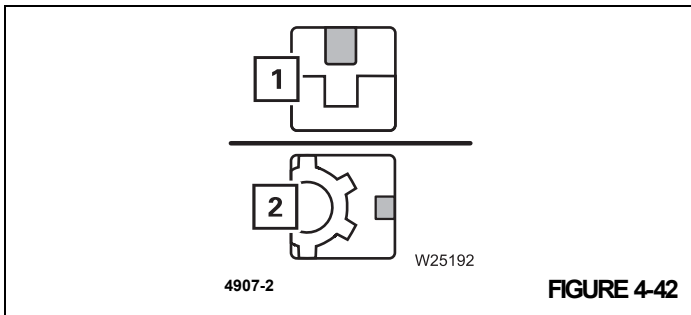

FIGURE 4-42
10. Switch off the swing gear if working at 0° or 180° positions – symbol (1), (Figure 4-42) red, refer to *Switching OFF the Swing Gear*, page 4-90.
11. Switch off houselock (if fitted) for other working positions – symbol (2), (Figure 4-42) is red, refer to *Switching OFF the 360° Lock*, page 4-47.